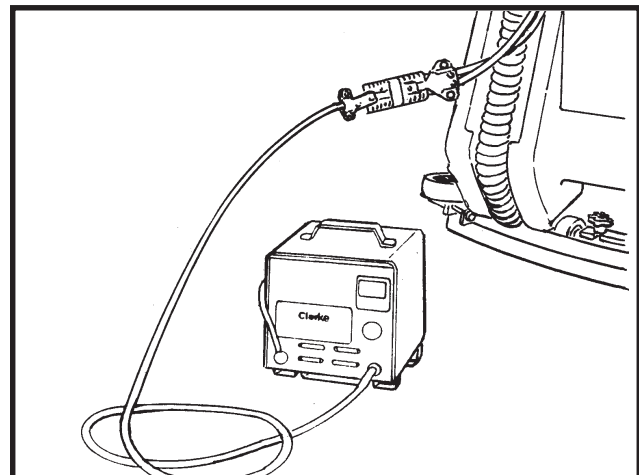

Figure 14
5. Connect the DC connector on the charger to the battery pack connector. See figure 14.